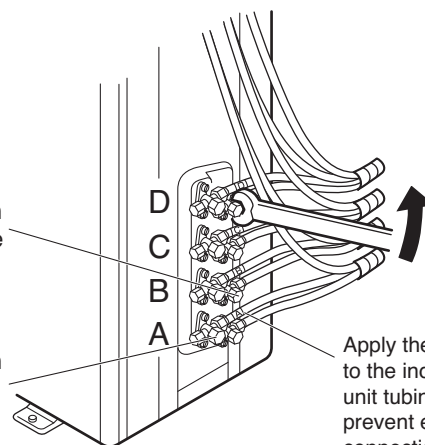

**Fig. 13**
c) For proper connection, align the union tube and flare tube straight with each other, then screw in the flare nut lightly at first to obtain a smooth match. (Fig. 13)